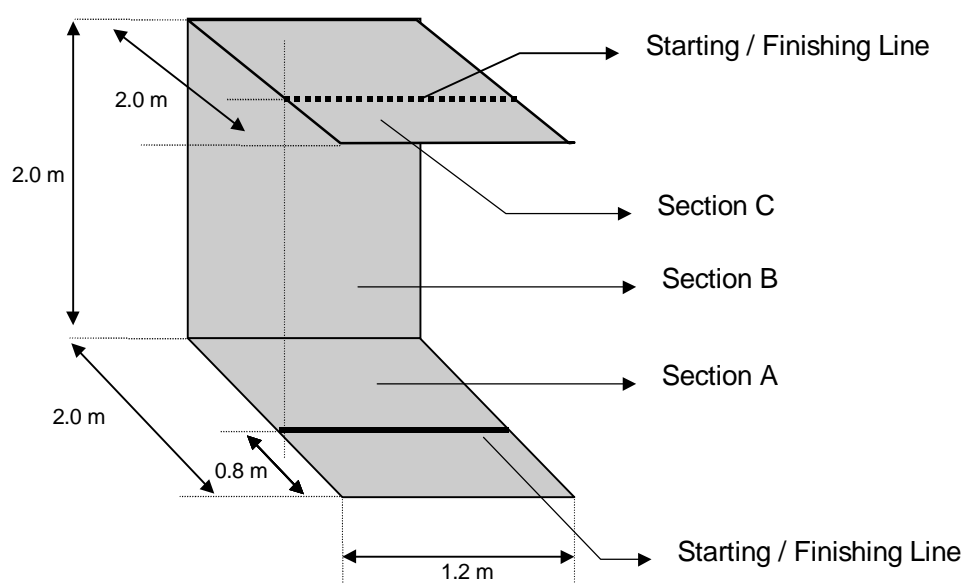

Figure 1: The wall for the wall-climbing robot race
- 2.1 The wall is shown in Figure 1 below. It consists of three sections: a 2 metre long horizontal section (section A) on the ground followed by a 2 metre high vertical section (section B) followed by a 2 metre long horizontal section (section C) at the top, with each section 1.2 metres wide.
- 2.4 The supporting structure for the wall will have provision for *two* safety cables to be attached to the robot so that both cables can be used simultaneously during the race (*not* shown in Figure 1.)
The wall will be deemed to have satisfied criteria (a) and (b) above and be considered fit for use if each of the two distances between diagonally opposite corners (using the side view in Figure 1) lies in the range 2733 mm to 2847 mm.